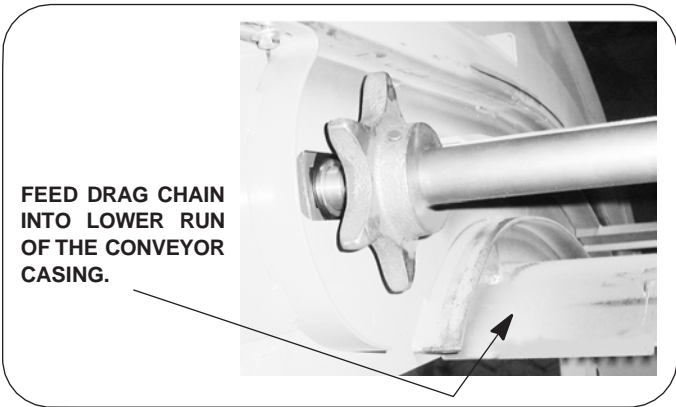

Figure 16. Installing the Drag Chain
2. Feed the end of the drag chain assembly into the lower run of the conveyor casing through the discharge section. See Figure 16. Be sure that the